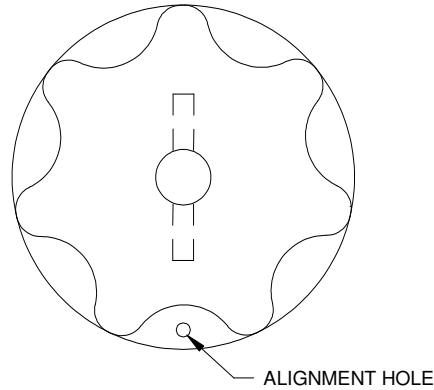

Fig. 5
- d) Recheck the location of the two sprockets to ensure the drive lugs are aligned with each other. Alignment can also be checked with the alignment holes on the sprocket; reference fig. 5.